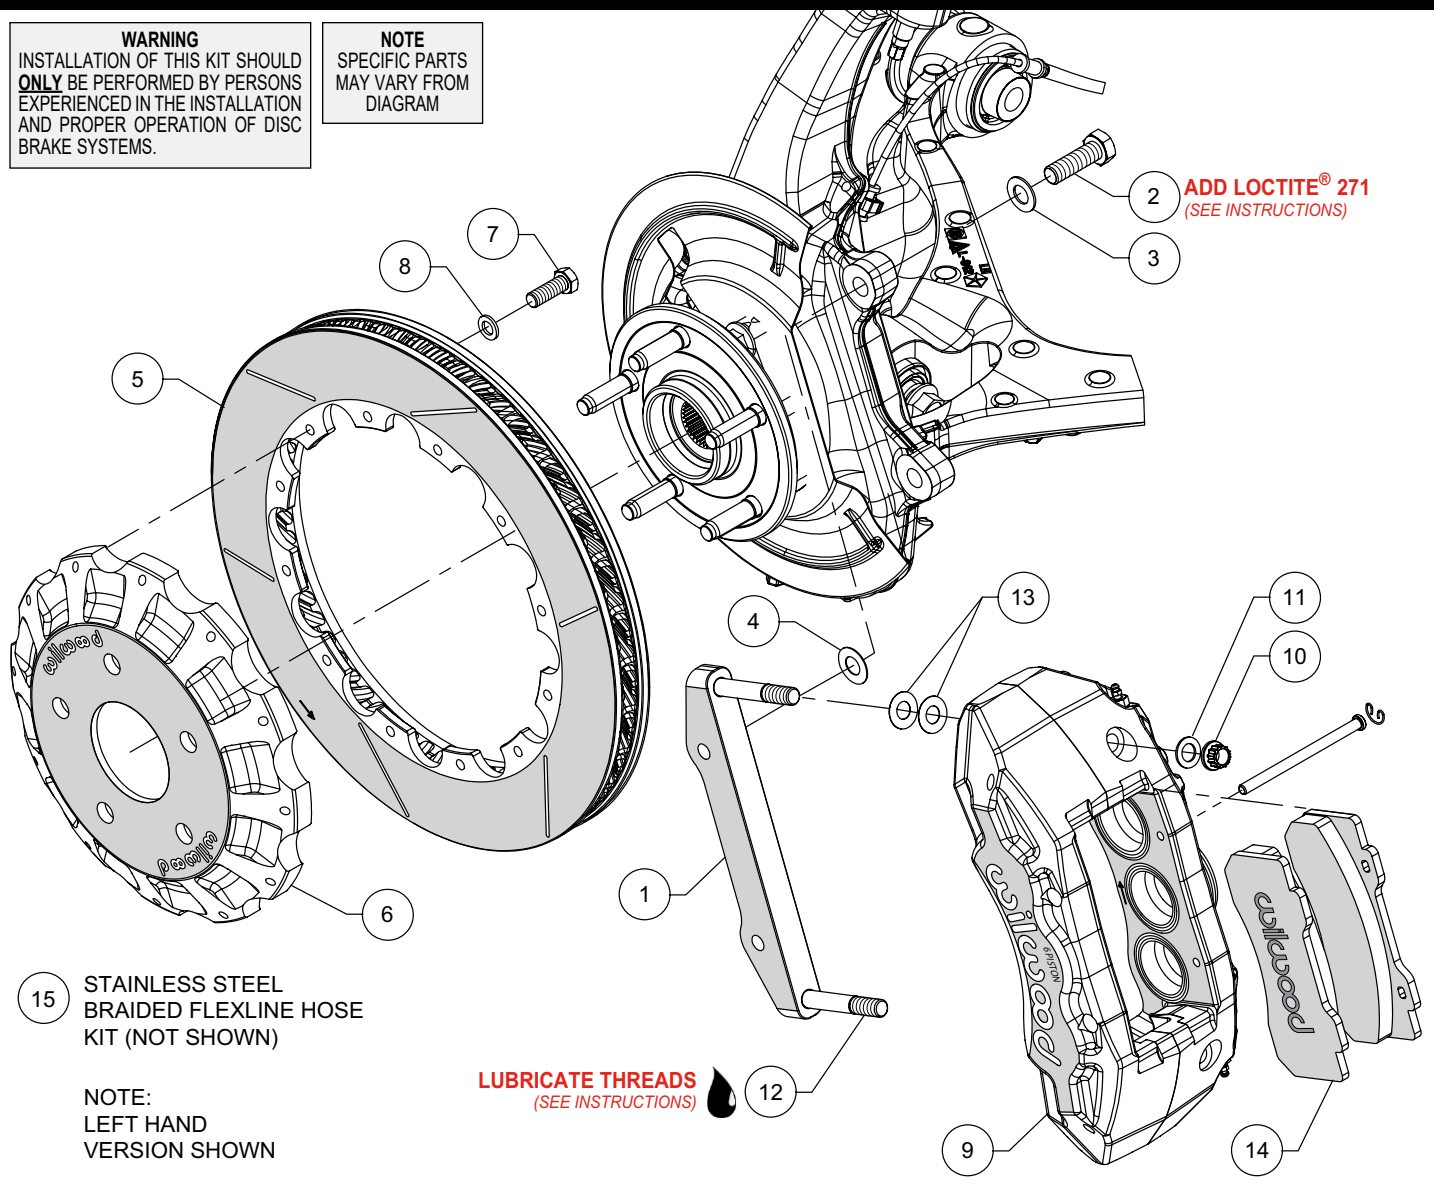

Figure 1. Typical Installation Configuration
NOTE: Numbers in parenthesis refer to the parts list and Figure 1 on the preceding pages.
- The caliper mount bracket (1) should initially be installed with clean, dry threads on the mounting bolts. Orient the bracket as shown in Figure 1 and Photo 1, and install using bolts (2) and washers (3). Initially place one .029 thick shim (4) on each bolt between the bracket and upright, Figure 1. Temporarily tighten the mounting bolts. **NOTE:** The bracket must fit squarely against the mount bosses on the upright. Inspect for interference from casting irregularities, machining ridges, burrs, etc. Later, after the caliper alignment has been checked, the mount bolts will be secured using red *Loctite*® 271.
- NOTE:** This kit contains distinct right and left hand calipers that must be mounted in a specific direction, as described below. Lubricate the caliper mounting studs (12) with lightweight oil. Initially place two .015" thick shims (13) on each stud as shown in Figure 1 and Photo 4. Mount the caliper (9) onto the bracket (1) using lock nuts (10) and washers (11), Figure 1. Ensure that the caliper is mounted so that the largest pistons are at the rotor exit end of the caliper, in relation to the direction of rotor rotation. Temporarily tighten the lock nuts and view the rotor through the top opening of the caliper. The rotor should be centered in the caliper, Photo 5. If not, adjust by adding or subtracting shims (4) between the bracket and the upright. Always use the same amount of shims on each of the two mounting bolts. Once the caliper alignment is correct, remove the bracket mounting bolts (2) one at a time, apply red *Loctite*® 271 to the threads, and torque to 77 ft-lb.